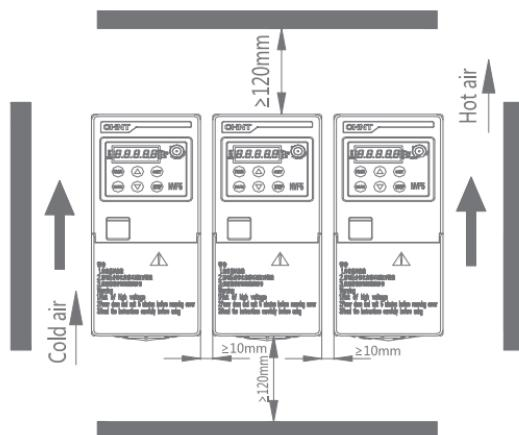

Figure 3-1 Inverter installation diagram
- c) Pay attention to the installation interval and distance when using the inverter. See Figure 3-1 and 3-2 for parallel and vertical installation of multiple inverters respectively.